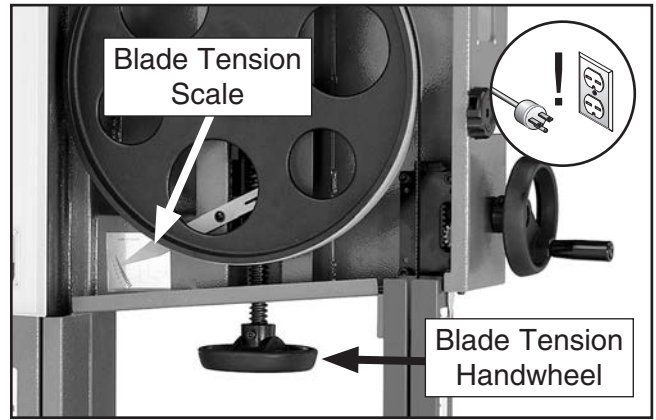

Figure 14. Blade tensioning controls.
3. Engage the quick tension lever and turn the blade tension handwheel until the tension scale (see **Figure 14**) reads between 4 and 6.